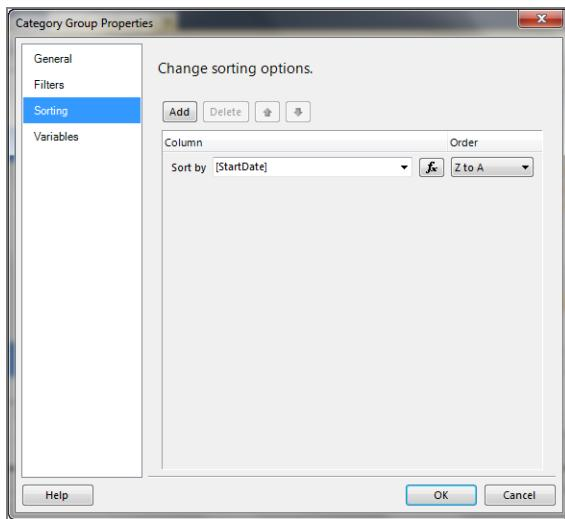

Figure 13-19
4. Open the Category Group Properties and define the Sort by field on the Sorting page as startDate (see Figure 13-19) using an order of Z to A.